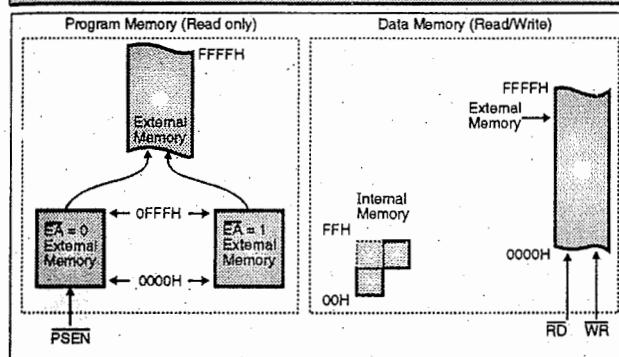

Fig. 1.18.1 : Memory structure of 8051
- Fig. 1.18.1 shows the basic memory structure for microcontroller 8051. It can access upto **64 KB of program memory and 64 KB of data memory**. It has 4 KB of internal program memory and 256 bytes of internal data memory.